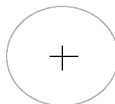

Fig. 64 - Service Label Information
Refer to the service label. See Fig. 64.
For an explanation of status codes, refer to service label located on control door or Fig. 64, and the troubleshooting guide which can be obtained from your distributor.
The stored status codes will NOT be erased from the control memory when 115- or 24-v power is interrupted. See the Service Label (Fig. 64) for more information. The most recent fault code may be retrieved as follows:
2. Observe the status LED through the blower door (the lower door on upflow applications) indicator. Refer to the Service Label (Fig. 64) to interpret the LED.
5. The LED will flash the last stored fault code. Refer to the Service Label (Fig. 64) to interpret the LED.
5. Verify that the Status LED glows.. If not, check that the power supply is energized and that the blower door is secure. See Fig. 64.